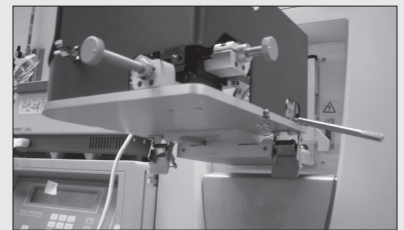

Figure 4.10 Brackets should line up with latches
3. Make sure the lower portion of the mounting brackets line up with the associated latches mounted on the base of the PicoView source (Figure 4.10). If they do not, check to make sure PicoView is properly mounted on the Interface Flange slide base. Adjustment of the base may be necessary (see Section 4.3.2).
4. To lock the PicoView in place, fasten the two latches on the bottom of the PicoView base and gently lock them into place (Figure 4.10).